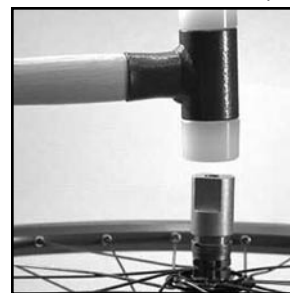

Fig. 7G
3. Place a new bearing over the axle, black side out. Tap the short bearing press with the hammer to begin pressing the bearing into the hub (Fig. 7G).